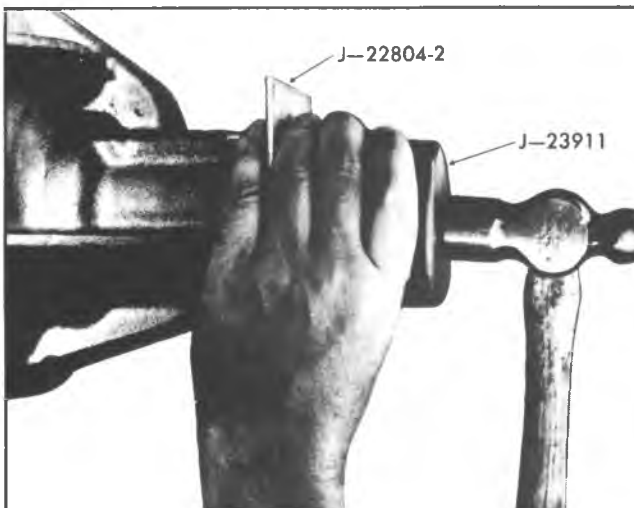

Fig. 23B--Installing Pinion Oil Seal
2. For 8-7/8" ring gear position seal in bore and place gage plate J-22804-2 over seal and against flange. Gage plate insures proper seating of seal in carrier bore. See figure 23B. Use J-23911 to press seal into bore until gage plate is flush with the carrier shoulder and seal flange. Turn gage plate 180°; seal must be square in carrier to seal properly.